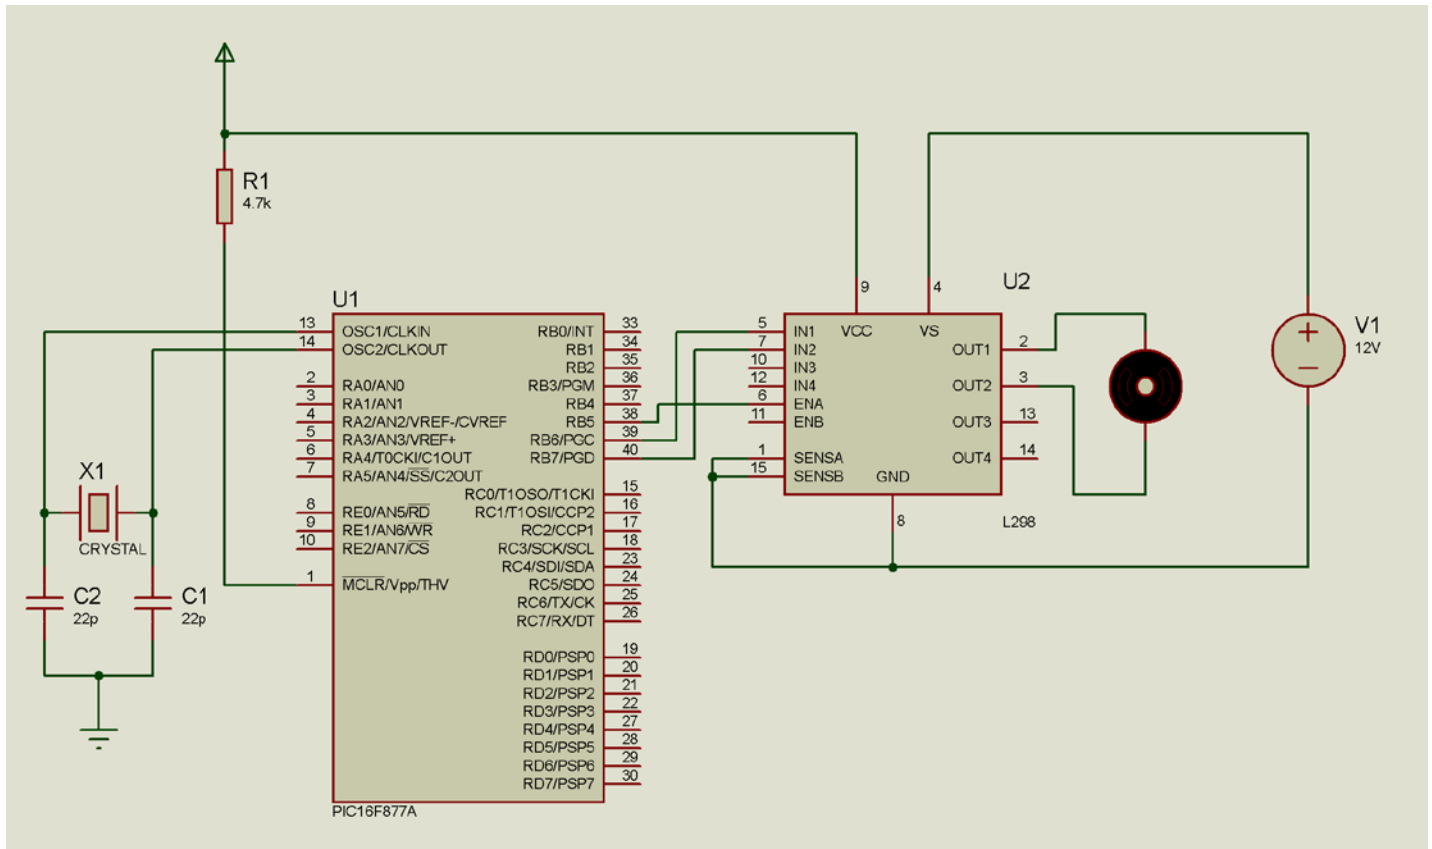

Figure 5: L298N and Motor interfacing
7. Apply the connections in **Figure 5**.